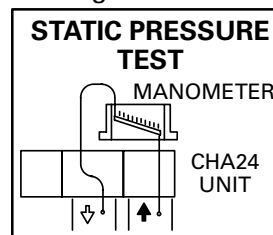

FIGURE 11
- 1- Measure tap locations as shown in figure 11.